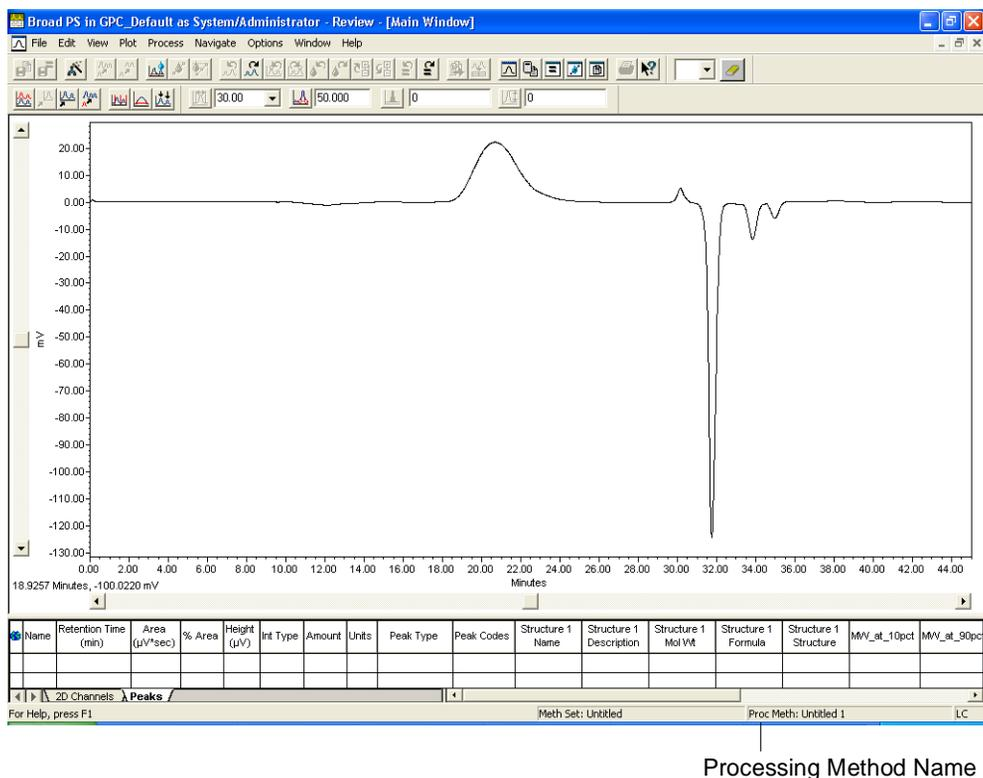

Figure 3-3 First Broad Unknown Displayed in Review
- Click **Review**. Review appears with the first broad unknown channel displayed (Figure 3-3).